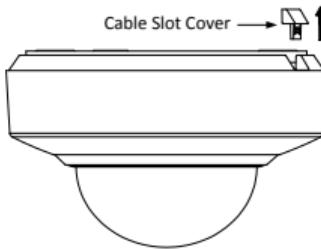

Figure 2-22 For PTZIP4XX Series PTZ Camera
3. Drill a cable hole in the ceiling according to the circle A on the template if you want to route the cables through the ceiling. Pull out the cable slot cover if you want to route the cables on the surface of the ceiling, as shown in Figure 2-22.